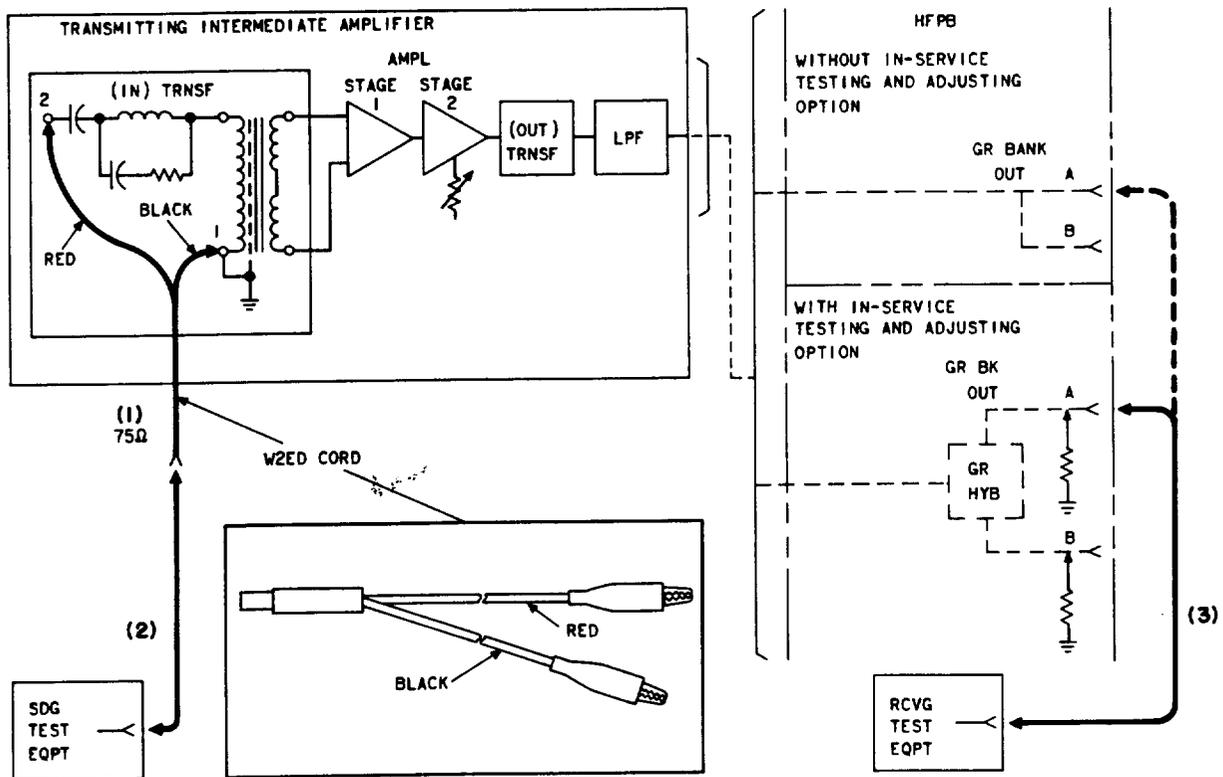

Fig. 2—Gain Test—Test Connections
The lead at terminal 2 of the input transformer is removed, and a 421-kHz test signal is applied across terminals 1 and 2 (Fig. 2). Measurement is made at the GR BK OUT A jack in the HFPB with the GAIN control positioned first for maximum gain and then for minimum gain.
4	Disconnect, by unsoldering, the lead from terminal 2 of the input transformer (Fig. 2).
8	Connect the STE to terminals 1 and 2 of the input transformer [patches (1) and (2), Fig. 2].
9	Connect the RTE to the GR BK OUT A jack of the group bank containing the amplifier being tested [patch (3), Fig. 2].
14	Remove patches (1), (2), and (3) in Fig. 2.